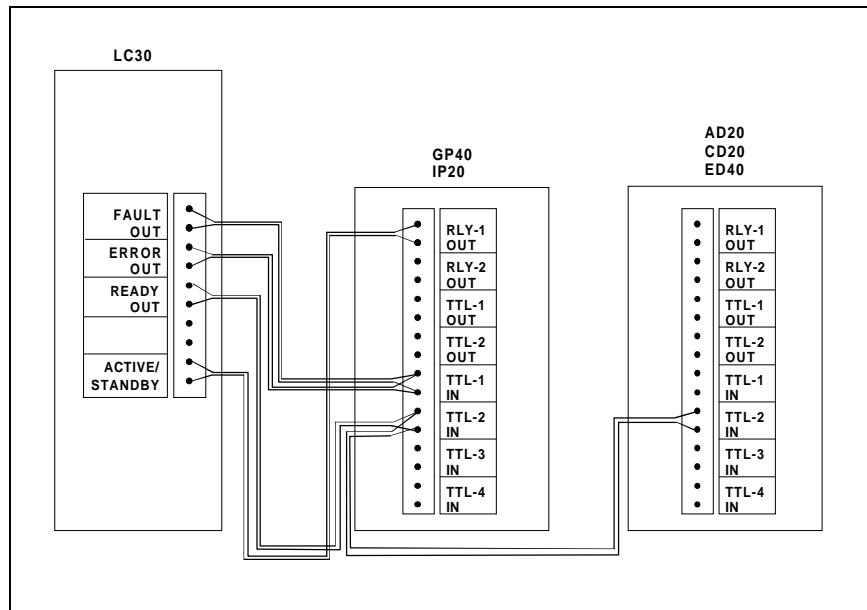

Figure E-3. Example TTL and Relay Connections
2. Attach a two-pin connector plug to the other end of each pair of wires. The two-pin plugs (P/N 921019) are provided in the Ship Kits of the DX 500 detector and pump modules. Connect these plugs to the TTL or Relay connectors on the other modules as needed for your application. Check the polarity of the connection. Connect signal wires to signal pins and ground wires to ground pins. Figure E-3 shows an example connection.
The Fault and Error outputs can be connected in parallel to a common input (see Figure E-3). The outputs will be OR'ed, which means that the occurrence of a Fault or Error condition by itself, or of both a Fault and an Error condition at the same time, will send the TTL output signal to the common input.